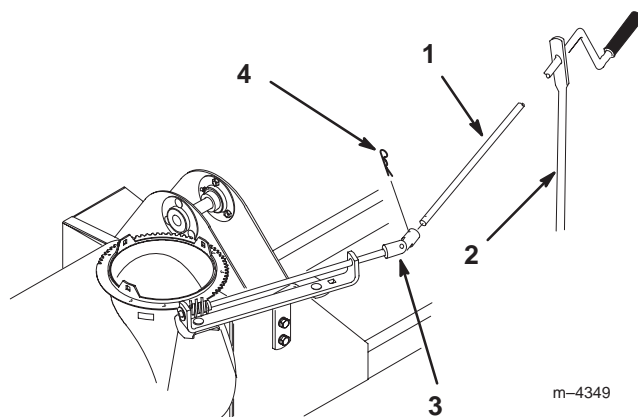

Figure 27
1. Remove the chute control rod by removing the hairpin cotter connecting it to the universal joint (Fig. 27).
2. Slide the chute control rod out of the end of the crank support (Fig. 27).